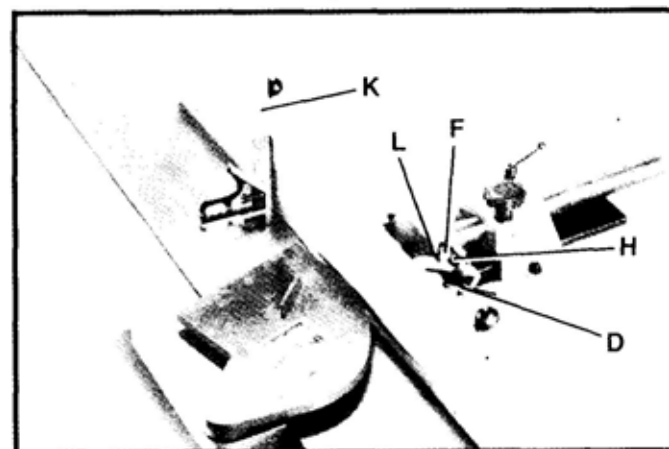

Fig. 54
2. Position the fence at 90 degrees to the table. Make certain flip stop (F) Fig. 54, is lowered as shown, and adjustment screw (H) is contacting the flip stop (F); then tighten locking handle (D).
3. Place a square (K) Fig. 54, on the table and against the fence as shown to check if the fence is 90 degrees to the table.
4. If an adjustment is necessary, loosen locking handle (D) Fig. 54, and locknut (L). Rotate adjustment screw (F) until you are certain the fence is 90 degrees to the table. Tighten locknut (L).